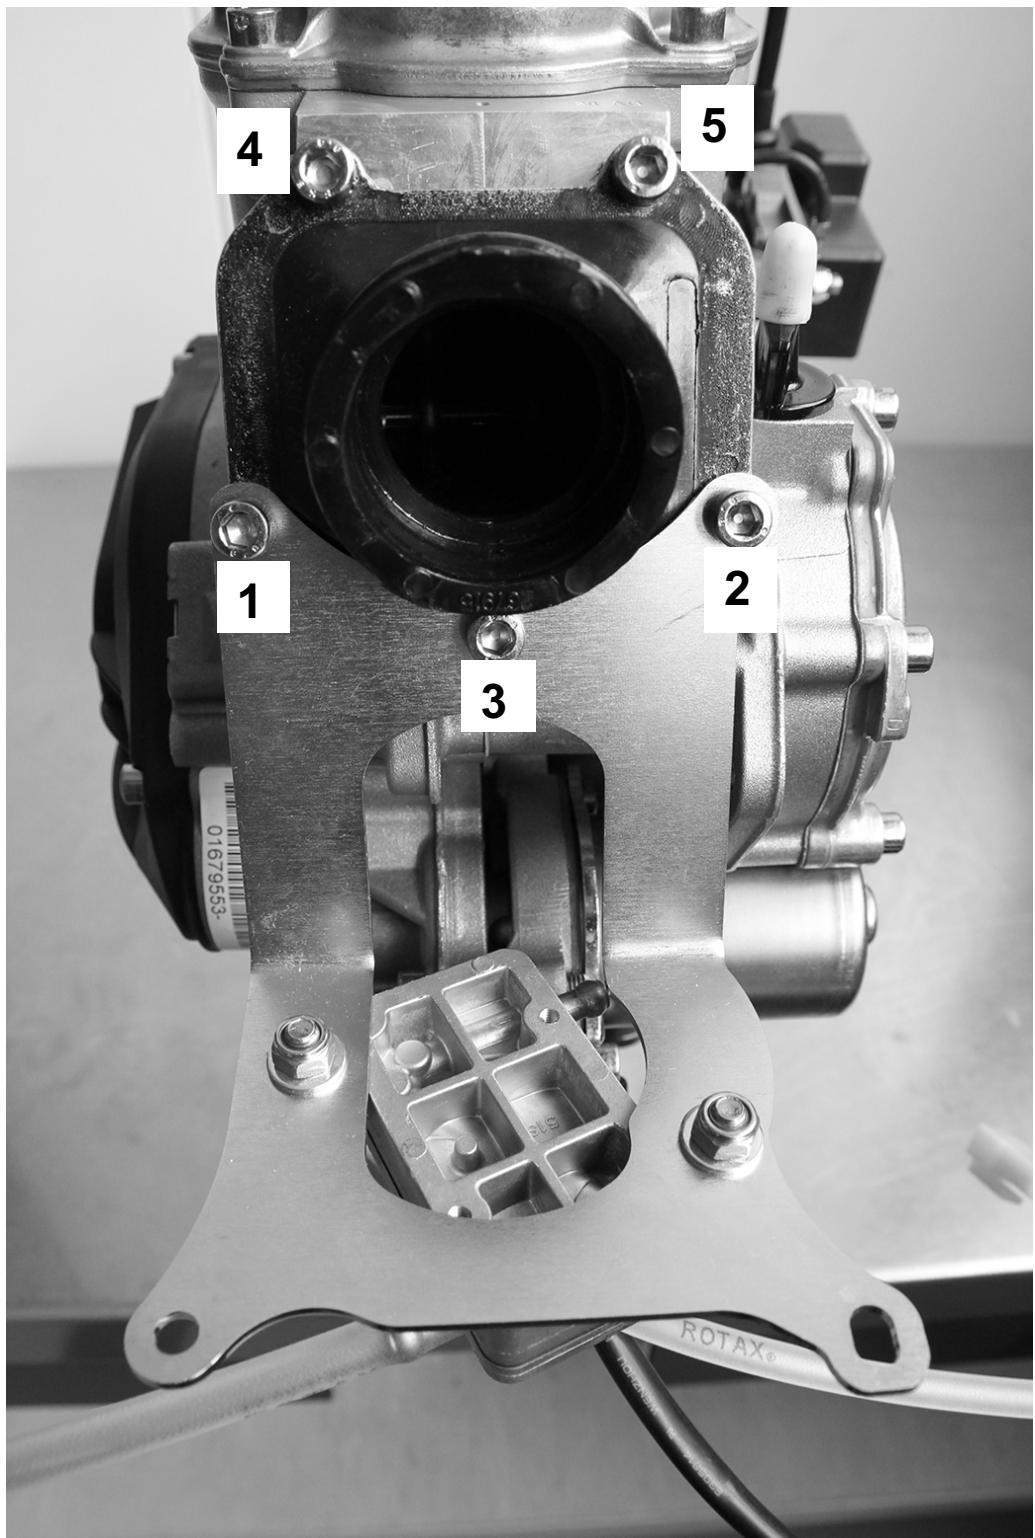

Fig. 12 (K00313)
- Loosen the Allen screws M6 (Pos. 1,2,3 in Fig. 12) in the indicated order according to Fig. 12.
- Loosen the residual Allen screws M6 (Pos. 4, 5 in Fig. 12) and remove carburetor flange.